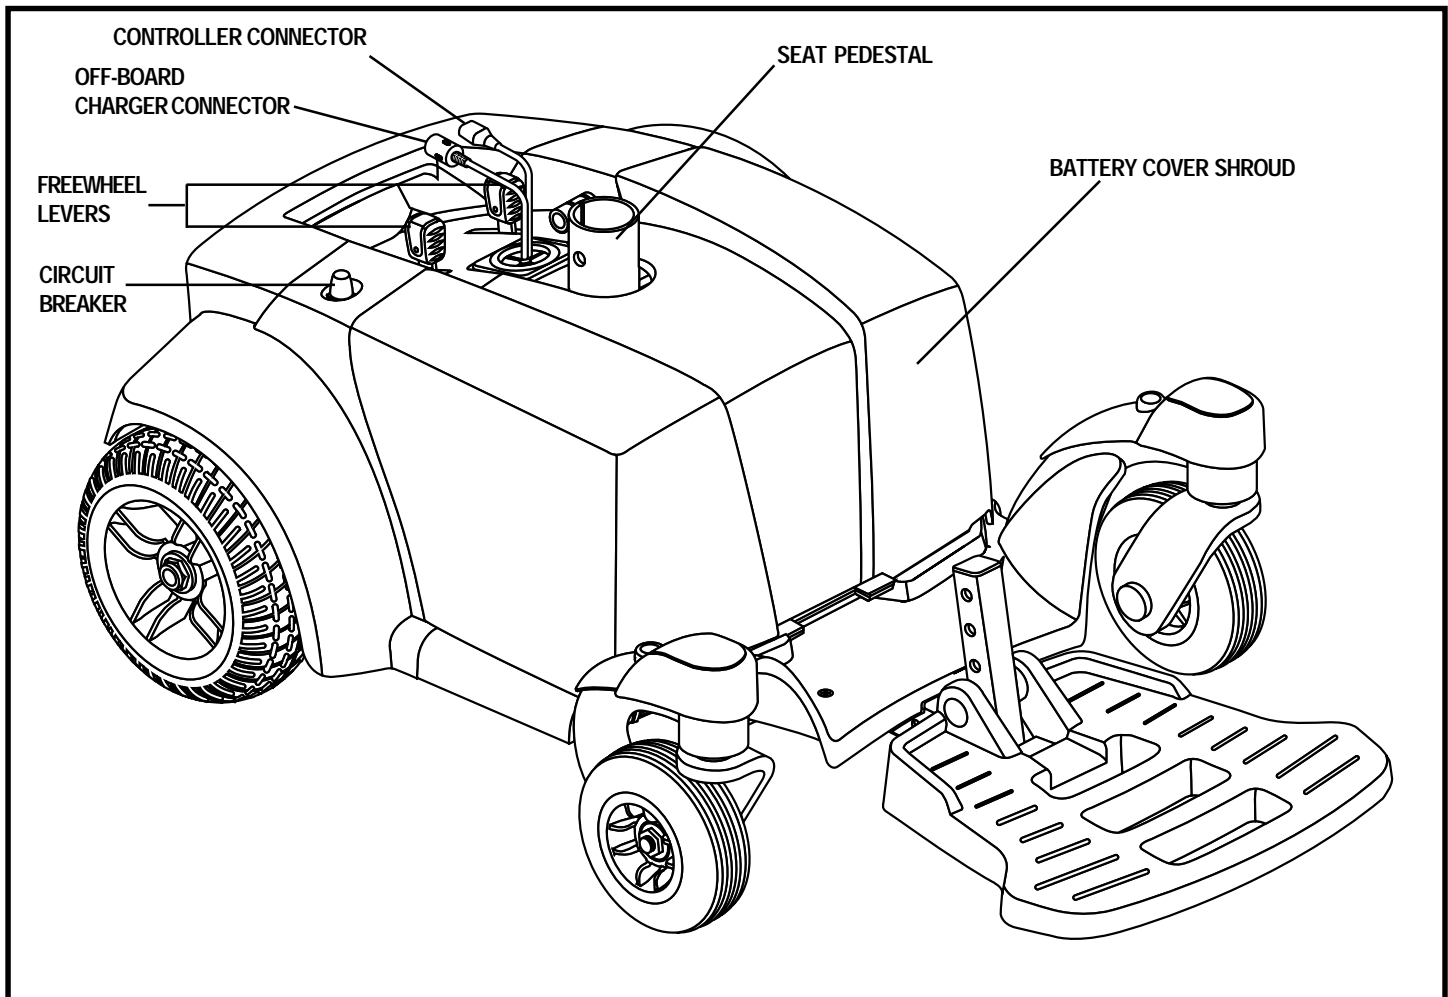

Figure 6. The Select Traveller Power Base
The electrical components are located on the power base. The main circuit breaker is located toward the rear of the power base. The controller and charger connectors are located on the rear of the power base. See figure 6.
5. Plug the controller cable into the connector on the power base. See figure 6.